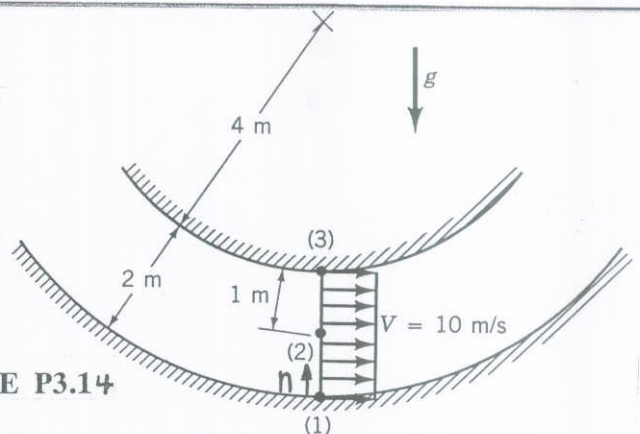

FIGURE P3.14
3.14 Water flows around the vertical two-dimensional bend with circular streamlines and constant velocity as shown in Fig. P3.14. If the pressure is 40 kPa at point (1), determine the pressures at points (2) and (3). Assume that the velocity profile is uniform as indicated.